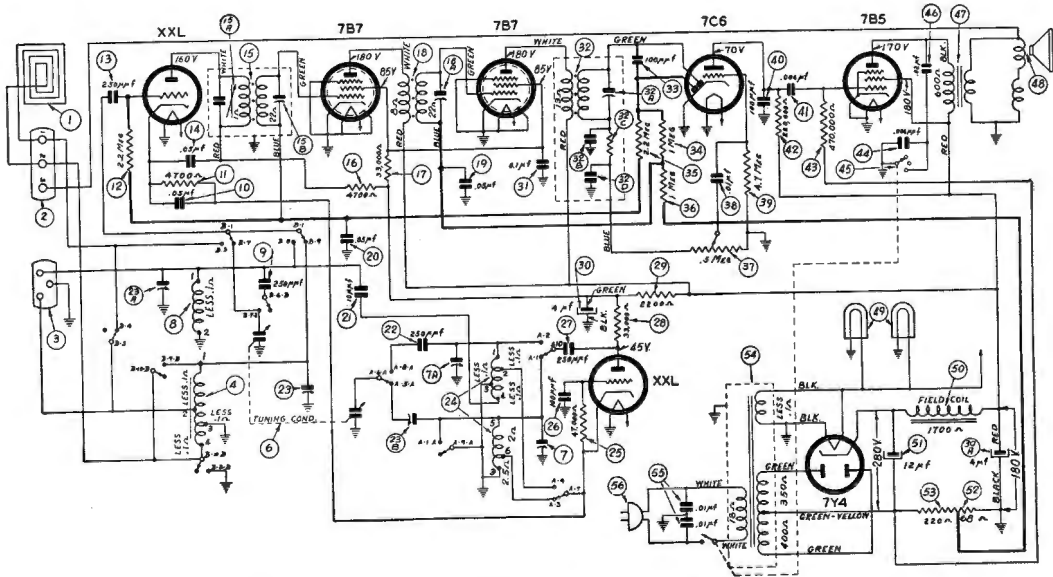

FIG. 12-14.—Philco Model 42-340 receiver. The DAVC circuit is shown in heavy lines.
Figure 12-14 is the schematic diagram of a receiver with a DAVC circuit. Note the following conditions. The delay voltage is developed across resistor (52) in the *C* voltage divider in the power supply and is applied through resistors (36) and (34) to the AVC diode plate of the 7C6 detector tube. Resistor (35) and condenser (20) form the filter circuit and carry the AVC voltage to the first